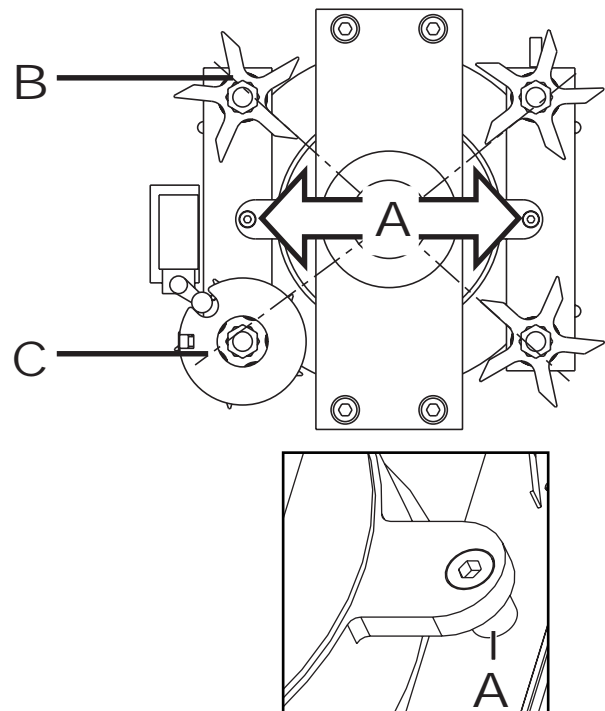

Fig.9-08 Fail safe brake
2. Turn the 4 star wheels (fig.9-08, B) counterclockwise, against the nut. Remove the notches if necessary (fig.9-08, A).
Mount the notches (fig.9-08, A), if removed before. The notches are very essential components for the correct functioning of the fail safe brake.
3. Put the disc (fig.9-08, C) in into its starting position.